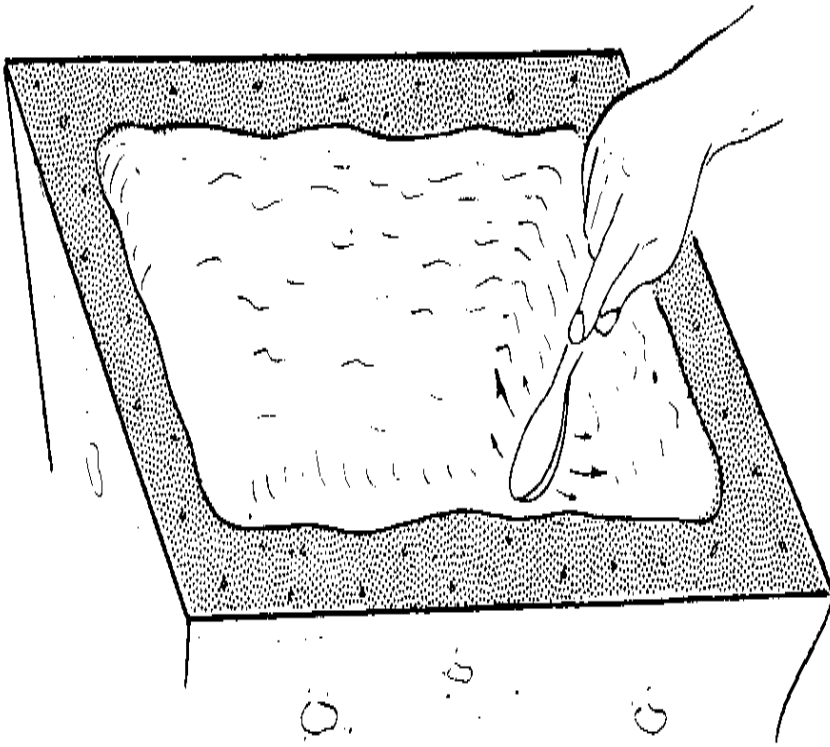

FIGURE 18
After the interior has been dug out, the walls will have slumped down about an inch. Use the cement taken from the interior to build the walls back up; then smooth all exposed surfaces with the back of the spoon as in Figure 18.
For a finishing coat, one of two methods may be used: (1) immediately after smoothing, sprinkle dry cement over the still wet surfaces and smooth again with the spoon (Figure 18); or (2) let the bowl set for half an hour and apply a mixture of pure cement and water—a coconut husk brush is good enough. Either method gives good results.